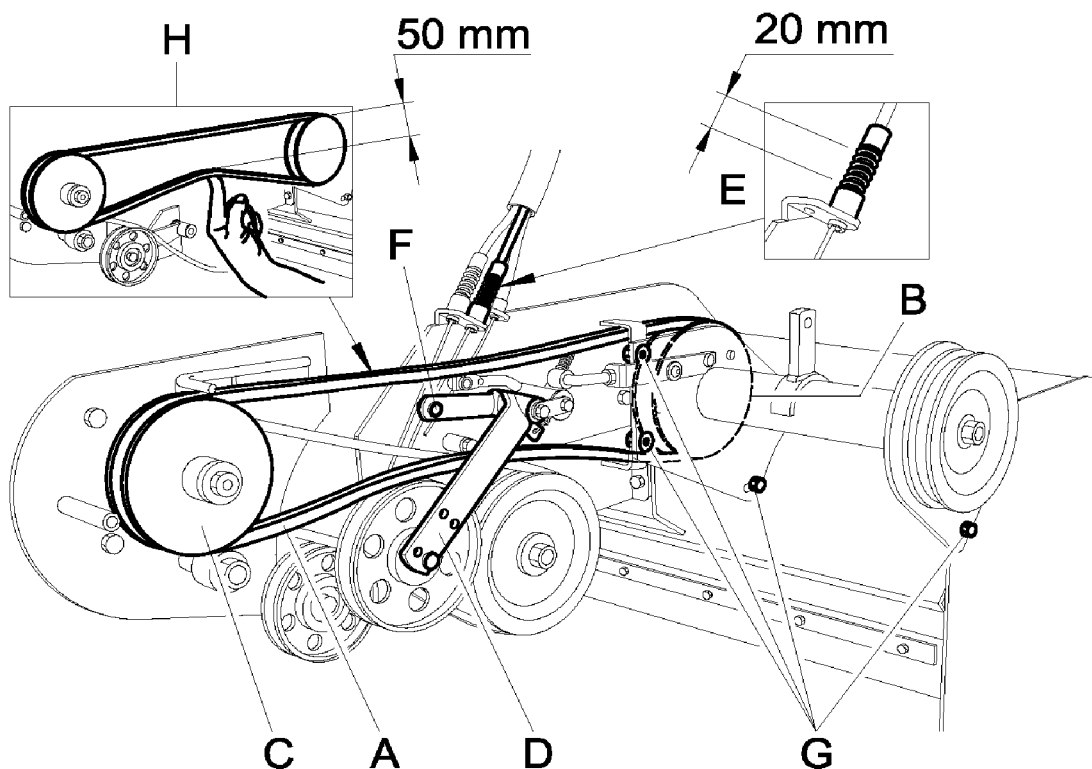

Figure 12
- Extract the rotor engagement belt (Fig. 12 Ref A) by turning the engine pulley anticlockwise.
- Extract the rotor engagement belt (Fig. 12 Ref A) by turning the engine pulley anti-clockwise (Fig. 12 Ref C).
- Fit a new belt by inserting it first in the large pulley (Fig. 12 Ref B) then in the engine pulley (Fig. 12 Ref C).
- Check the distance between the two parts is 50 mm by pressing down on the bottom of the belt (Fig. 12 Ref H) with your finger.
- a) move the intermediate transmission assembly by loosening the locknuts (Fig 12 Ref G) until the distance is correct.
- b)after adjusting the position of the intermediate transmission assembly and before tightening the lock nuts securing it, check the two pulleys (Fig. 12 Ref B and C) are aligned.
- Act on the rotor engagement lever (Fig 5 Ref D) and make sure that the height of the spring during work is 20 mm (Fig 12 Ref E) when the belt tightener is at the end of its run (Fig. 12 Ref D).
- If the height of the spring is not correct when the tightener is engaged, adjust the clamp securing the cable (Fig 12 Ref F) accordingly.